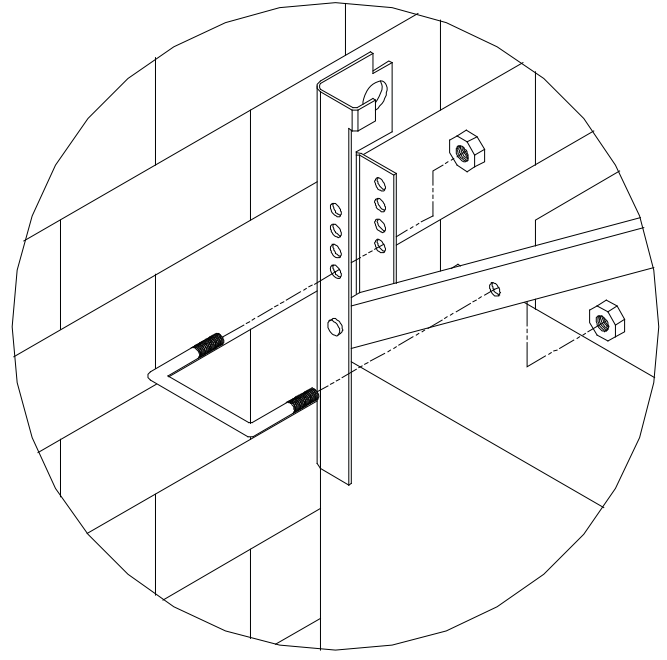

FIGURE 3
5. At this point, the header mounting brackets can be drilled or you can wait until after Step 7. To do it now, make sure the distance between mounting brackets is correct for the unit to be installed. (Reference 5656-0007, Figure 3) Drill appropriate hole for the style of anchor to be used, into the center of the 1" diameter hole on the header mounting bracket.
7. While still on the side you just finished, slide one end of the installation safety "U" bolt 1/3 the way into the hole located on the side arm of the top frame assembly. Lift the front bar assembly until the "U" bolt aligns with the desired hole on the header mounting bracket. (See Figure 3) (Note: The correct hole is when the "U" bolt can be installed and leave an ample amount of slack in the cover in order to get backer board into the header mounting bracket.) Install the "U" bolt all the way through the holes. Attach the supplied nuts to the "U" bolt threads. For normal installations, the nuts just can be hand tightened.